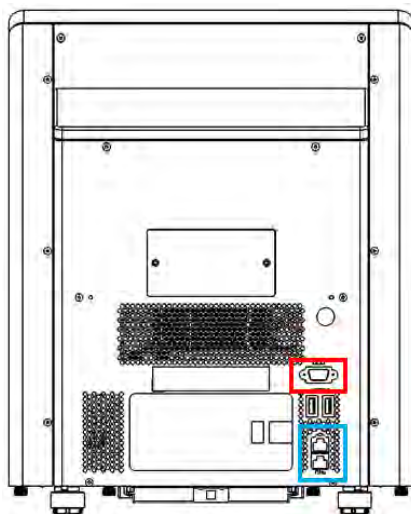

Figure 4.21: Location for one RS-232 Serial; DB-9M Connector (highlighted in red) and two ethernet ports (highlighted in blue) on the Alto.
2. A RS-232 Serial; DB-9M Connector (Figure 4.21, highlighted in red) is available. Please contact Nicoya for applications that interface through the RS-232 port.
3. The user is provided with two ethernet ports (Figure 4.21, highlighted in blue) for connecting the instrument to the local network and/or the internet. The two ethernet